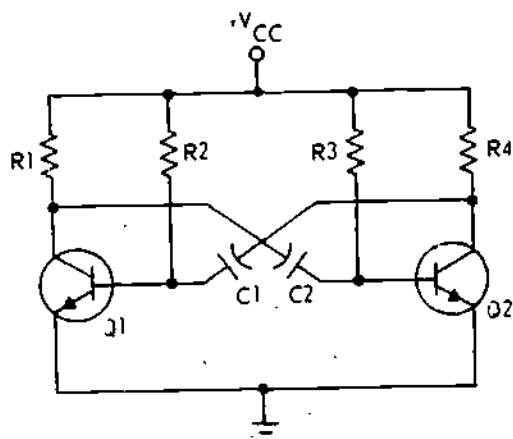

Figure 12
Questions 1 thru 4, refer to Figure 12 and Chart 5.
1. The circuit in Figure 12 is correctly identified as a (triggered, free-running) (astable, monostable, bistable) multivibrator.
2. Given: The waveform labeled "A" on Chart 9 is the signal from the collector of Q2. Match the remaining waveforms to the proper element of the Figure 12 transistors.